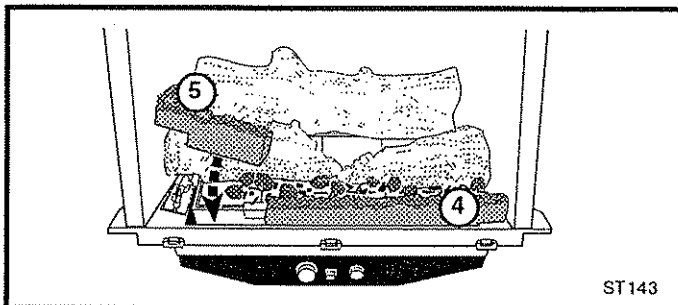

Fig. 15. Install the Front Logs. Loosely spread the Lava Rocks between the front and middle logs.
6. Place the two Front Ember Log sections (4, 5) in the slot at the front of the firebox as indicated in Fig. 15.
7. Loosely sprinkle the Lava Rocks directly on top of the burner plate in between the front logs and middle logs. *Do not place any ember material behind the middle logs. Do not layer the lava rocks on top of each other.* (Fig. 15)